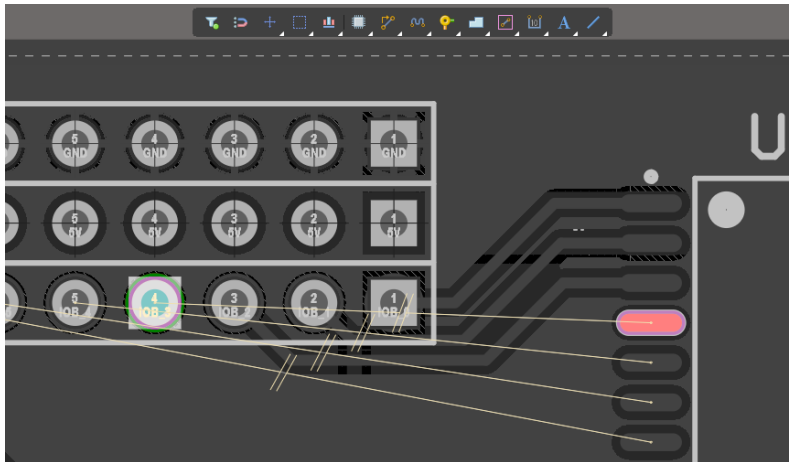

Figure 14. Highlighted violations
28. In the *Violations* pane of the panel, click on any violation in the list to jump to component **IOS2**. One of the pads from **IOS2** should be highlighted along with one pad of component **UI1**, and the rest of the board is masked similar to Figure 14.